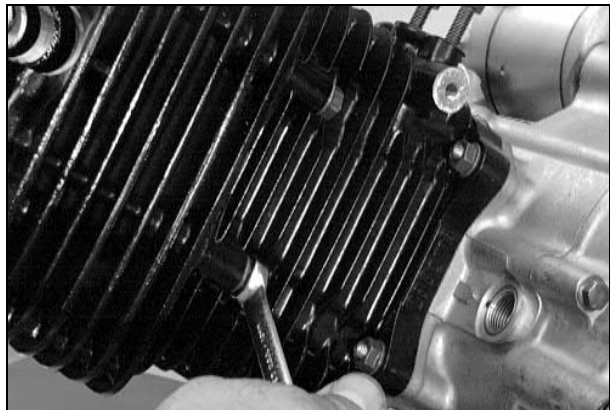

Fig. 43
8. Remove the nuts securing the cylinder head to the cylinder; then remove the three cylinder head cap nuts and one nut with copper washers (note location of the cap nuts and nuts), (Fig. 43).